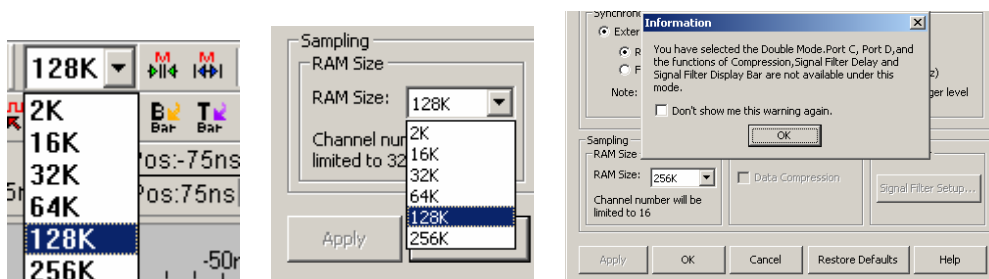

Fig 4-3 – RAM Size
Click the RAM Size  or from the pull-down menu in the Sampling Setup dialog box as shown in Fig 4-3.
**2:** The relationship between RAM Size, Signal Filter Mode, Compression Mode and Channels as shown in Table 4-1 and Fig 4-3.